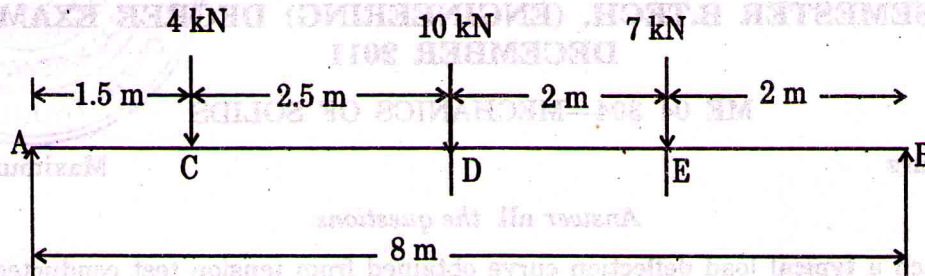

Fig. 2
- (b) Draw Shear Force and Bending Moment diagrams for the simply supported beam shown in Fig. 2.